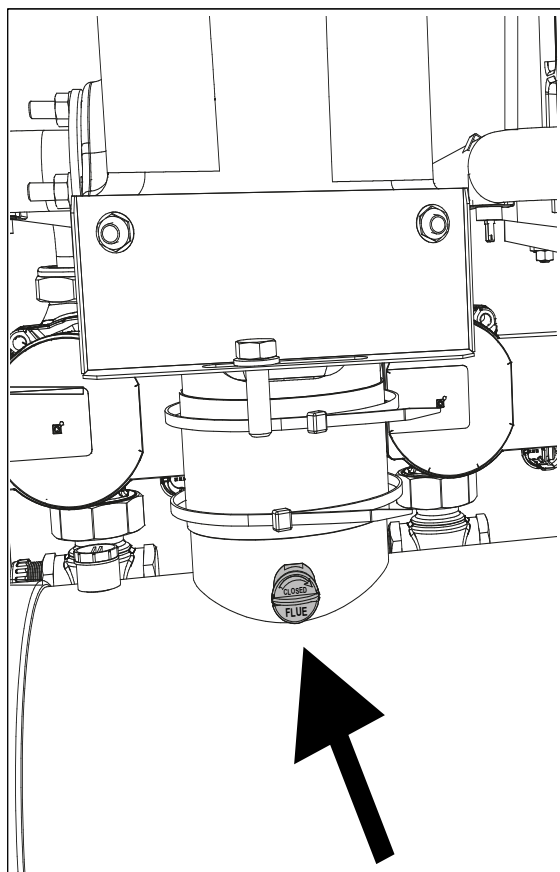

fig. 94- Single module fumes outlet
The sampling of combustion fumes must be done by inserting the analyzer probe into the fumes outlet of the single module (see fig. 94).
- Insert a combustion analysis instrument in the fumes outlet (see fig. 94).